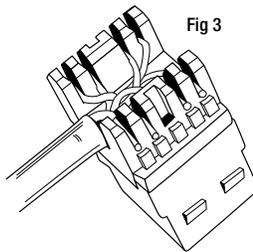

Fig 3
- 5) Repeat steps 3 & 4 until all conductors are terminated as shown in Fig 3.